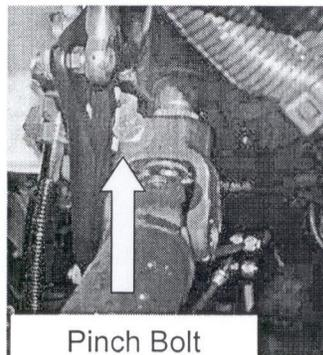

Figure 3: Steering shaft U-joint at firewall
8. **Remove the pinch bolt securing the steering shaft to the U-joint at the lower end of the column. (See Figure 3)**